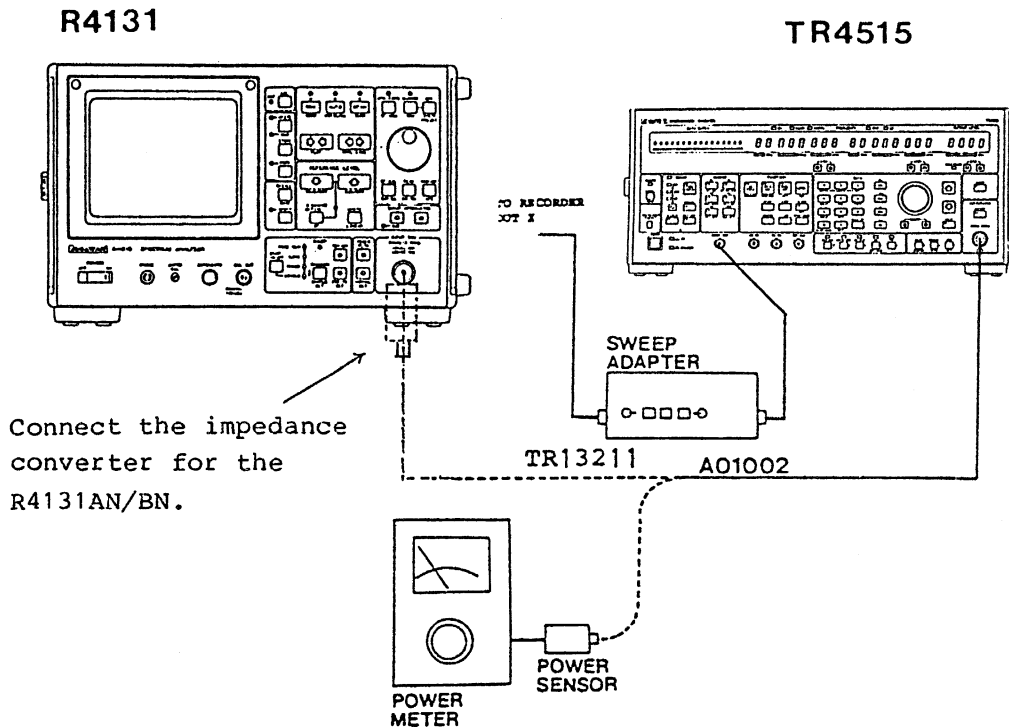

Figure 11-19 Frequency Response Test Setup
② Set the sweep oscillator output to 200 MHz (CW), -10 dBm and connect it to the power meter using the A01002 cable. Adjust the output level of the sweep oscillator to -10 dBm. (See Figure 11-19.)
- ③ Connect the sweep OSC output to the spectrum analyzer INPUT connector. Connect the impedance converter for the R4131AN/BN/CN/DN. (See Figure 11-19) With its amplitude set to 2 dB/division, set the reference level to display a 200 MHz signal on the center axis of the display screen.
- ④ Set the sweep oscillator to the external sweep mode, and set the start and stop frequencies to 10 MHz and 4 GHz, respectively.
- ⑤ Press the sweep adapter START switch, and adjust the START dial to display the signal at the leftmost position on the display screen. Next, press the STOP switch and adjust the STOP dial to display the signal at the rightmost position on the display screen.